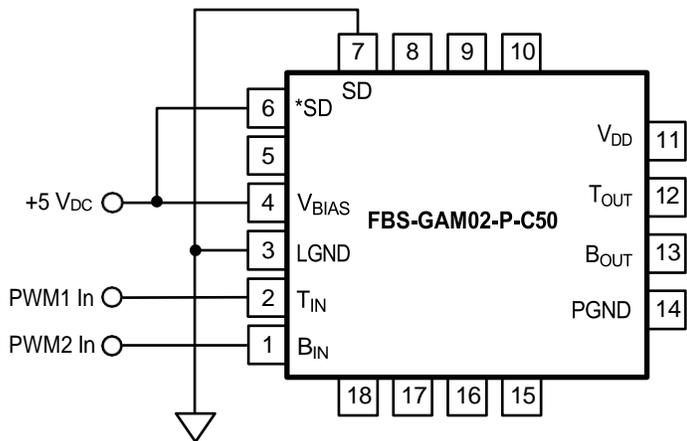

Figure 18. PG Protection Functions Disabled
The FBS-GAM02-P-C50 incorporates a Power Good (PG) sensing circuit that disables both the low- and high-side internal gate drivers when the +5 V_{DC} gate drive bias potential (V_{BIAS}) falls below an under-voltage threshold, typically 4.45 V_{DC}, or rises above a potentially-damaging V_{BIAS} over-voltage threshold level – refer to Figure 5 for the proper operational nomenclature and functionality versus the state of the V_{BIAS} power supply. During the time when the V_{BIAS} potential is outside of the pre-set threshold(s), the PG output (Pin 5) pin is logic low (“0”). Alternatively, when the V_{BIAS} potential is within the pre-set thresholds the PG pin is logic high (“1”). The logic condition of the PG pin may be sensed by a rad hard FPGA or Microcontroller/DSP in-order to determine when the power switches in the FBS-GAM02-P-C50 may be driven with a pulse-width modulated (PWM) input signal(s) at the B_{IN} and T_{IN} logic inputs. If either the under-voltage and over-voltage indication features are not required or desired, then these functions may be disabled separately by connecting the *SD (Pin 6) pin to V_{BIAS} (pin 4) for the UVLO or the SD pin (Pin 7) to LGND (pin 3) for the 0 V_{DC} indicator, as shown in Figure 18.